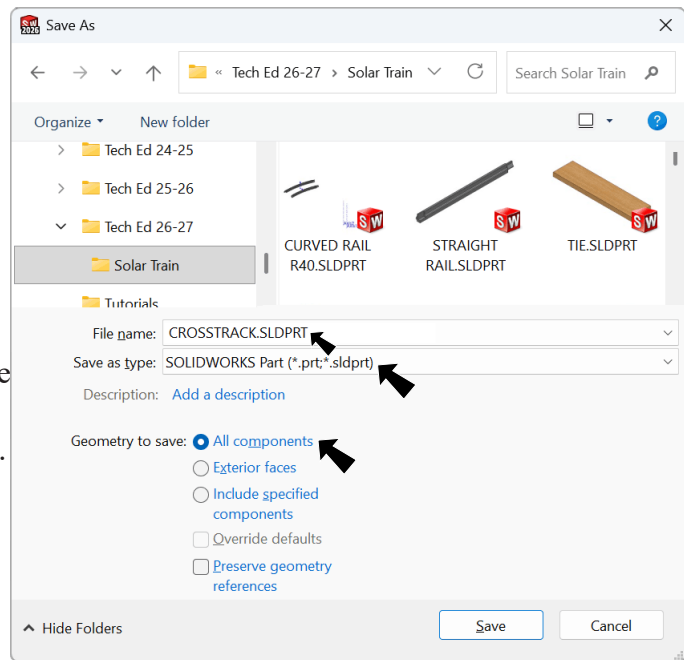

Fig. 6
Step 2. In the Save A dialog box, **Fig. 6**,